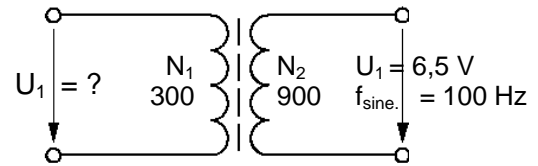

Fig. 18.4.9: Exercise circuit, transformer  $N_1 = 300$ ,  $N_2 = 900$  with core
- The coils are now changed over (Fig. 18.4.9). Now, the primary coil has  $N_1 = 300$  windings and the secondary,  $N_2 = 900$  windings. Calculate the value that must be set for the input voltage  $U_1$  to give an off-load voltage at the secondary of the transformer of  $U_2 = 6,5$  V,  $f = 100$  Hz?
- Assemble the transformer on the Electronic Circuits Board as shown in Fig. 18.4.9 and prove your calculations by measurement (Slowly and carefully, increase the voltage at the function generator).